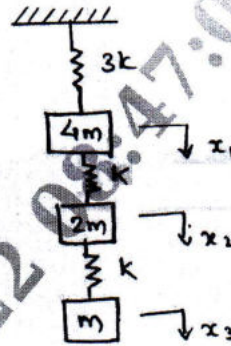

Fig.Q.9(b)
b. For the system shown in Fig.Q.9(b), find the lowest natural frequency by Stodola's method.